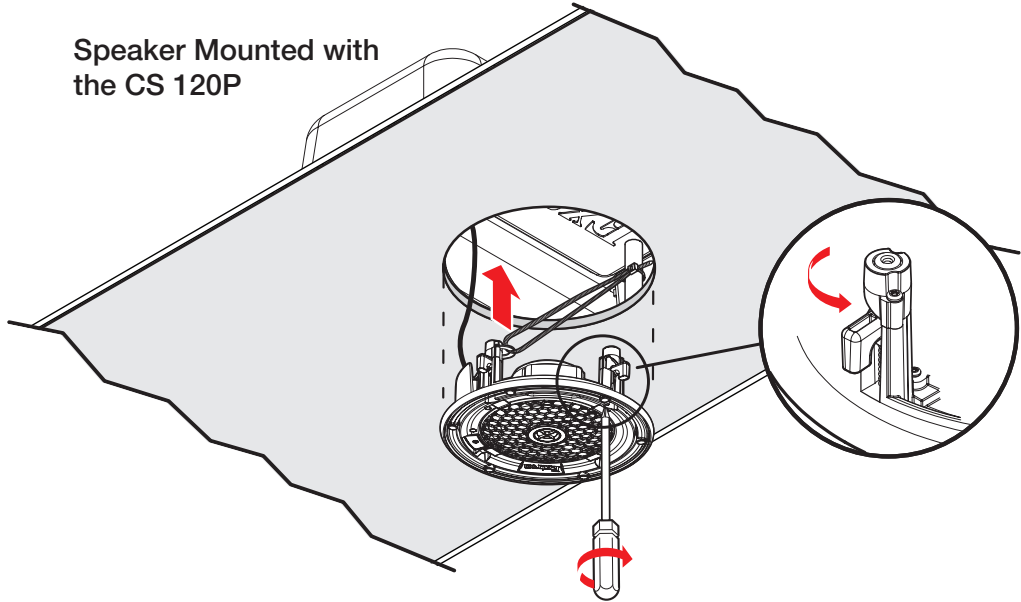

Figure 22. Mounting the Speaker to the CS 120P
20. Mount the CS 26T Plus (see figure 22).